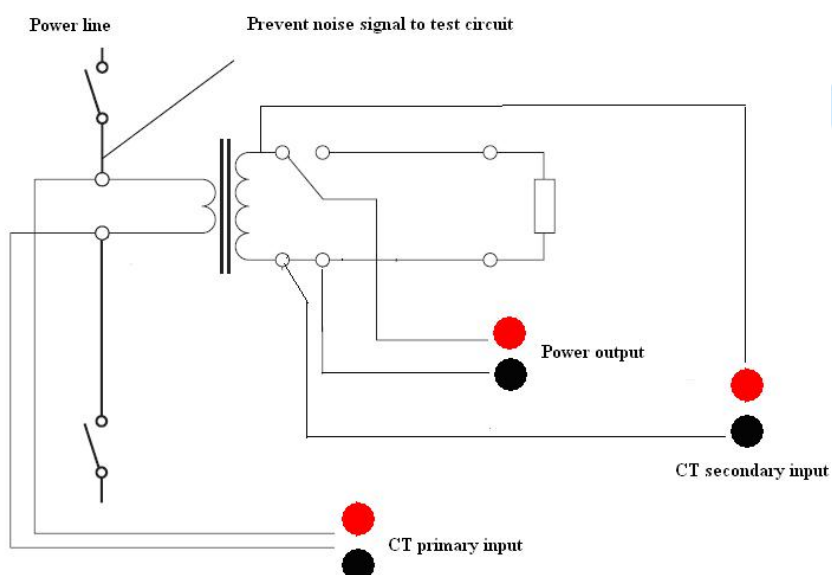

Figure 3.4 Reference connections for CT analysis, ratio and polarity test
- 1) Connect analyzer grounding terminal to protection earth (PE).
- 2) Disconnect power line connection in primary of CT as figure 3.4. Power line which is not connected to earth would bring lots of noise signal when testing
- 9) Please keep the voltage measurement connection behind the power output connection so that contact resistance has no effect in test results. Reference connection is showed as figure 3.4
- 5) Please keep the voltage measurement connection behind the power output connection so that contact resistance has no effect in test results. Reference connection is showed as figure 3.4
so that contact resistance has no effect in test results. Reference connection is showed as figure 3.4
- 10) Please keep the voltage measurement connection behind the power output connection so that contact resistance has no effect in test results. Reference connection is showed as figure 3.4